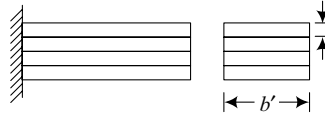

Fig. 2.19(b)
If the plate is cut into a series of 'i' no of strips of width b' and are assembled as shown in Fig. 2.19(b). Then equations (1) and (2) can be written as follows.